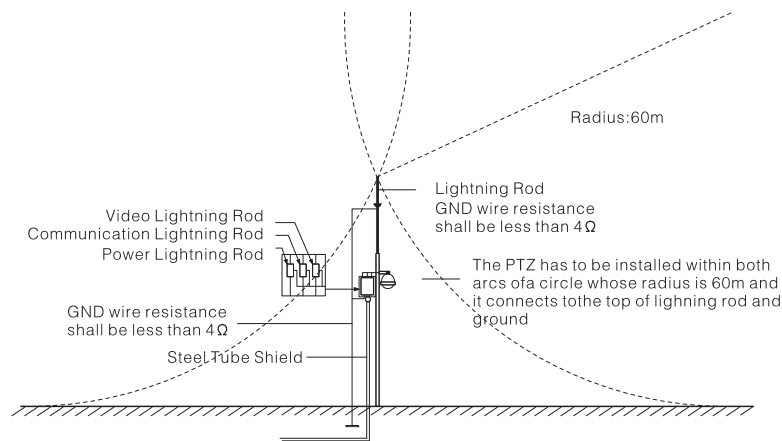

Figure 4-1
- System shall adopt equal-potential wiring. The earth device shall meet anti-jamming and at the same time conforms to your local electrical safety code. The earth device shall not short circuit to N (neutral) line of high voltage power grid or mixed with other wires. When connect the system to the earth alone, the earth resistance shall not be more than 4Ω and earth cable cross-sectional area shall be no less than 25 mm². See Figure 4-1